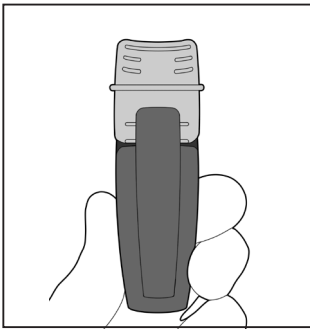

Fig. 11
1. Ensure that the IntegraBite is properly assembled with the applicator and bite plate vertically aligned (Fig. 11).